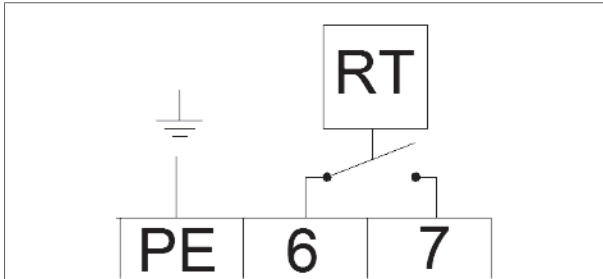
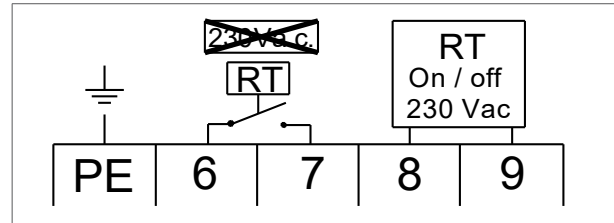

Figure 11 - ON/OFF thermostat connection
Figure 12 - ON/OFF 230 V thermostat connection
- Connect the two thermostat wires to terminal 6 and 7 (see figure 11 or the electrical wiring diagram in §9.). This is a 24 V connection for the thermostat signal.
- Connect the 230 V signal of the external thermostat to terminals 8 and 9 (see figure 12). The terminals 6 and 7 should have been connected to the relay of the thermostat kit (see figure 11 or the electrical wiring diagram in §9.).